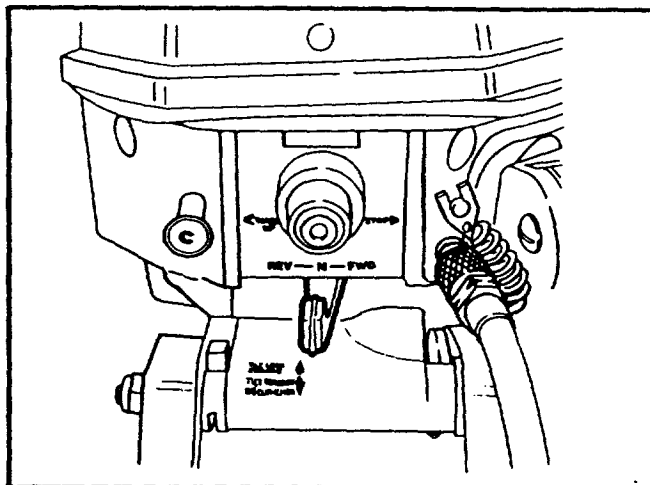

FIGURE 39
- Place shift lever in neutral and run motor at fast idle (Figure 39).